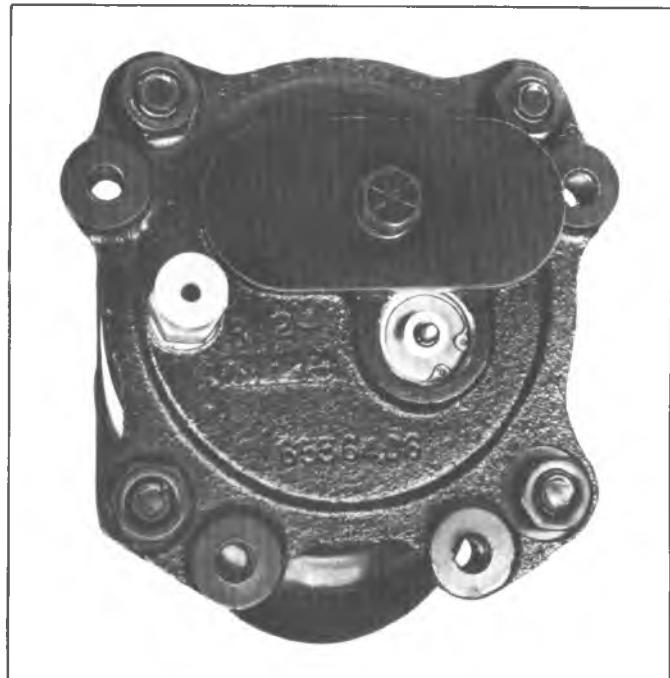

Fig. 83--Superheat Switch Removal
2. After the system is discharged, remove the superheat switch retainer ring, using J-5403 Internal Snap Ring Pliers (fig. 83).